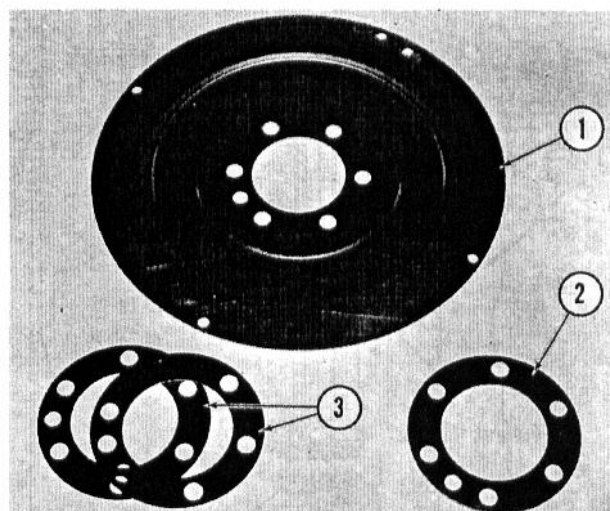

FIG. 7 — CONVERTER DRIVE PLATE COMPONENTS
1. Install the converter drive plate, shown in Fig. 7 to the engine flywheel. Tighten retaining bolts to 76-85 ft.-lbs. torque on diesel models and 50-55 ft.-lbs. torque on gasoline models.